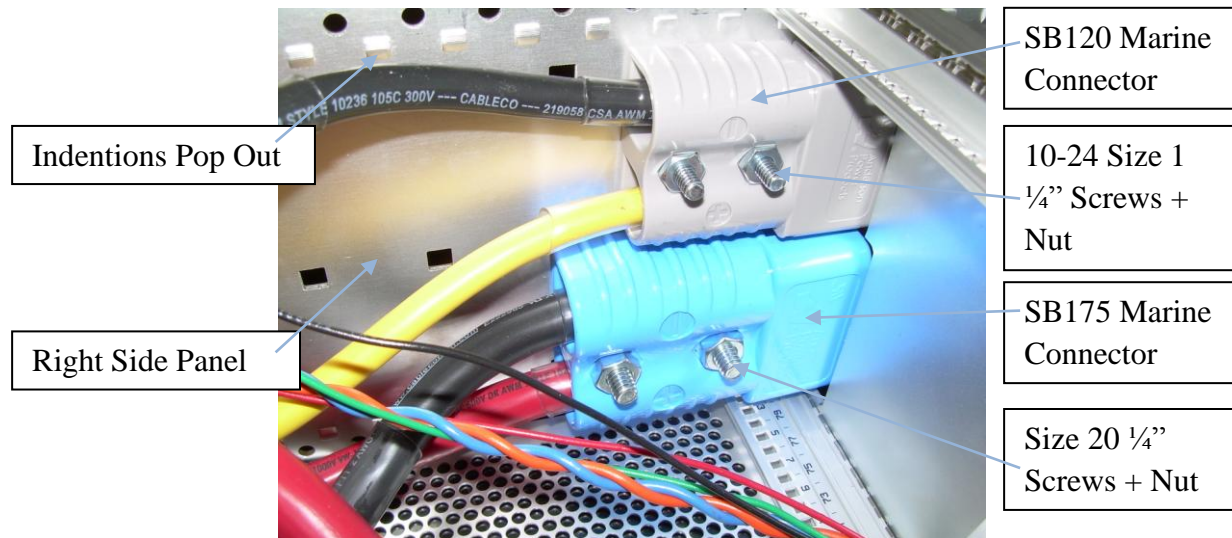

Figure 4
1. Attaching HV source to switch. First, wind the blue and orange high voltage cables together such that there are approximately 1.5-2 turns per inch. After this is done, take the 0.8cm stripped end of the 18AWG orange cable, which is currently connected to the 22AWG orange cable soldered to the triax bulkhead, and screw it into slot 4 of the contact block (P#: 9209K127, McMaster-Carr) on the back of the high voltage switch. Refer to Figures 4 and 8.